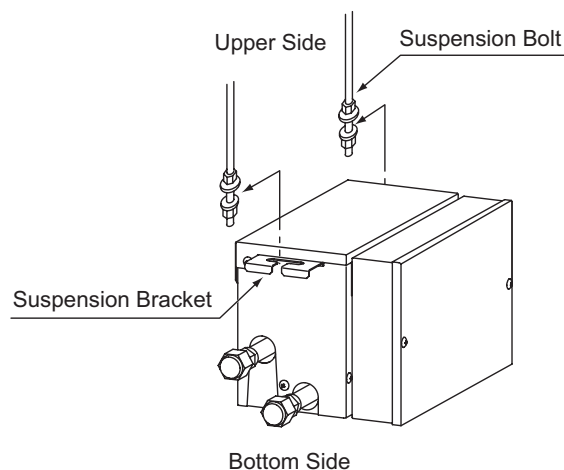

Figure 4.5 Hanging Method
(2) Hanging the Change-Over Box
- (b) Insert the suspension bolt into the groove part of the suspension bracket as shown in Figure 4.5. Ensure that the washers are correctly affixed to the suspension bracket.